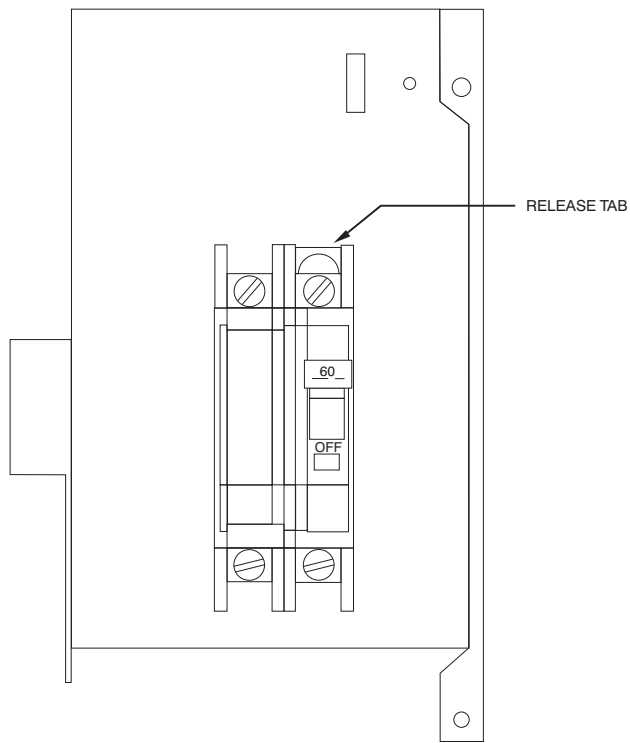

Fig. 16 - Conversion of Circuit Breaker
2. Pull white plastic release tab on the bottom of circuit breaker straight out to release circuit breaker from bracket. (See Fig. 16.)